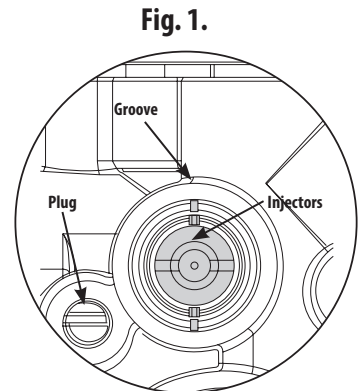

Fig. 1.
- Remove the four (4) screws of the injector cap.
- During final assembly be sure the injector is seated correctly as shown in **figure 1** above.